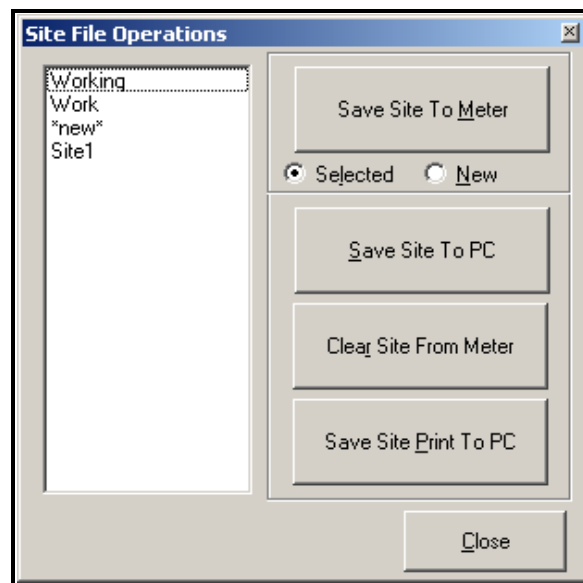

Figure 28: The Site File Operations Window
To access site files, click on the Site Files button in the *Properties* window. The *Site File Operations* window (shown in Figure 28) opens.
1. Highlight the desired site in the left pane. (See Figure 28 on page 31.)
1. Highlight the site in the left pane. (See Figure 28 on page 31.)